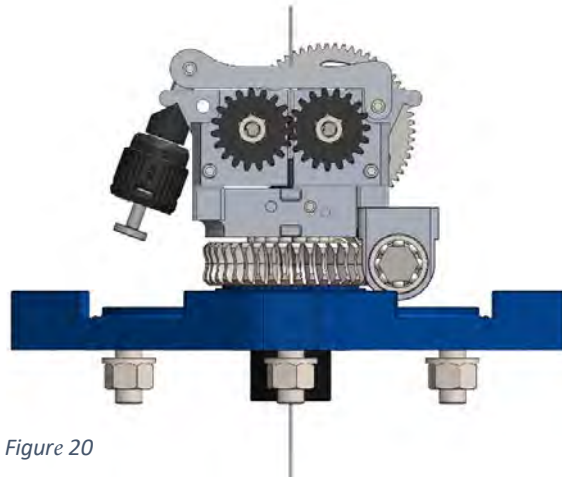

Figure 20
5. Ensure that the wire is positioned inside the "U" shaped grooves of the contact wheels, return the knob to its original position and turn it until the torque limiting clutch is engaged as shown on Figure 20;